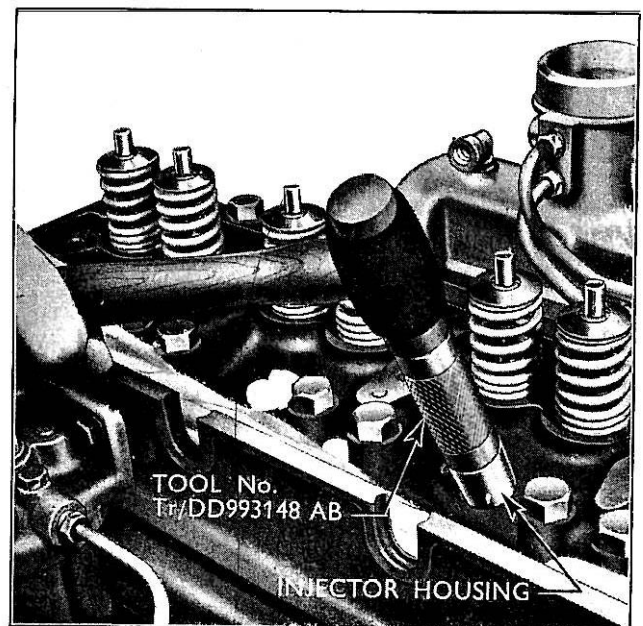

Fig. 16
- 3 Enter the injector housing in its cylinder head location, and tap into position using the Replacer, part of the Removal tool, and a suitable mallet. (See Fig. 16.)